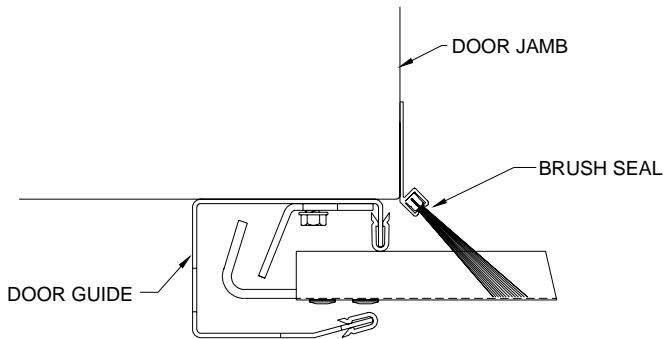

Figure 13.
14.2 Place the door in the closed position before installing the brush seal. Position brush seal so that it just touches the flat portion of the curtain. See Figure 13. Fasten brush seals to jamb every 12 inches with appropriate fasteners.